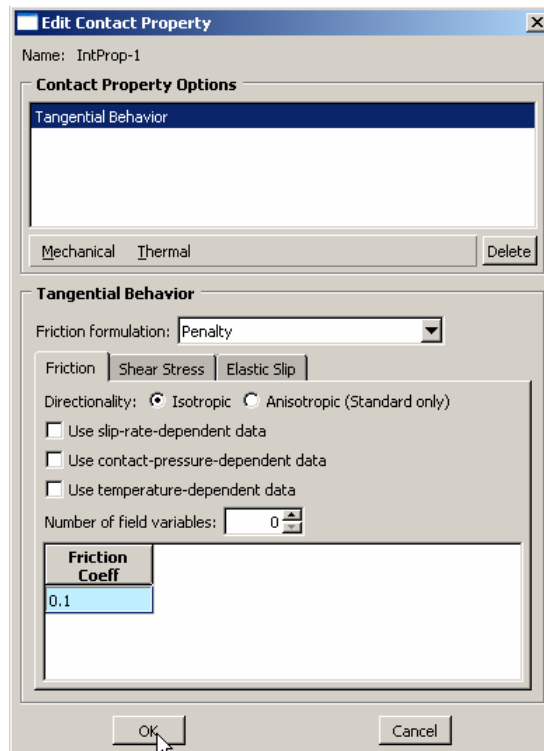

Figure W-25
- c. Select **Mechanical**→**Tangential Behavior** and define friction properties as shown in Figure W-25. Then press **Ok**.